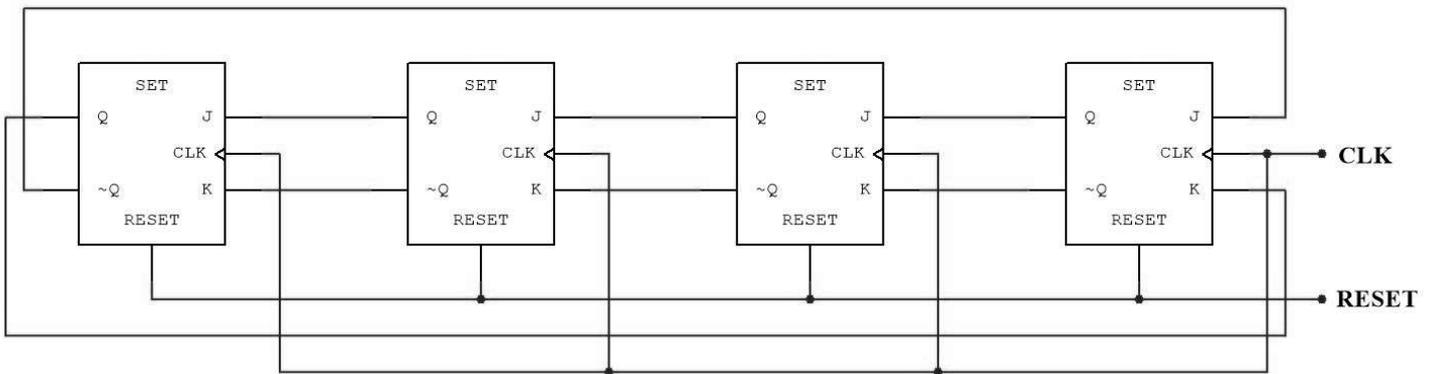
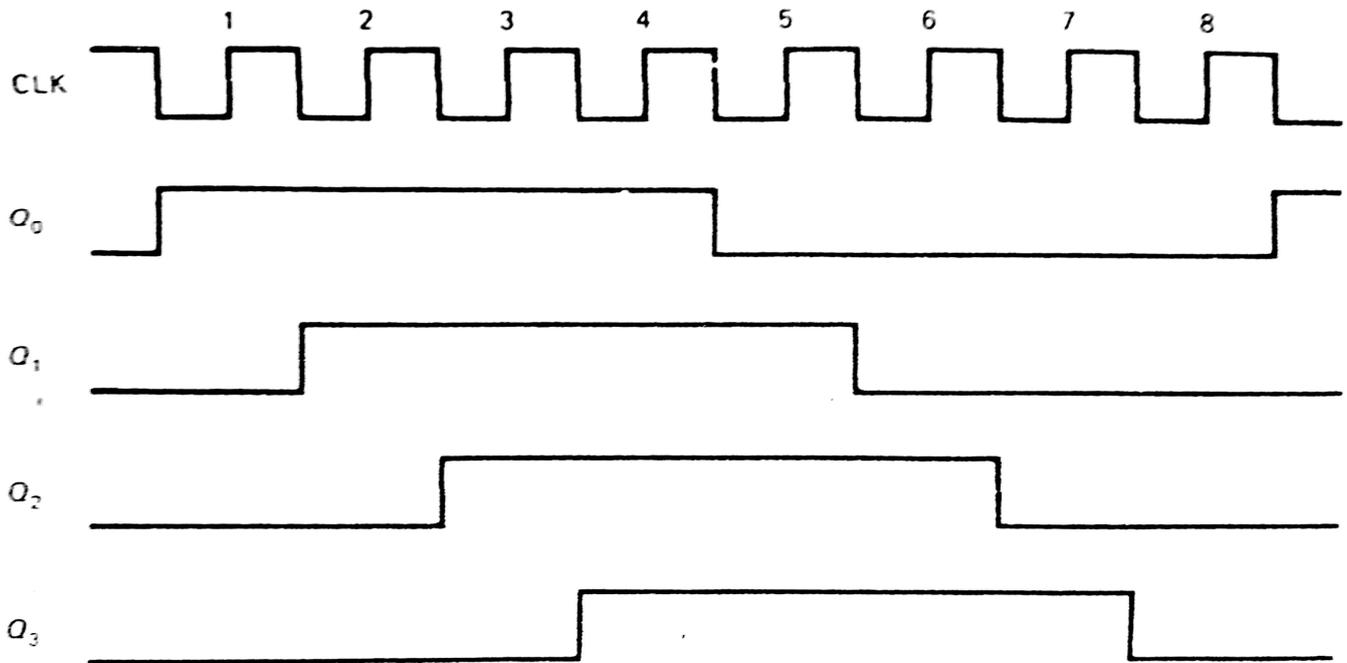

Figure 4.6. Johnson Counter
Figure 4.7. Johnson Counter Timing Diagram
The modulo number of a ring counter can be doubled by switching the Q and \bar{Q} outputs of the last flip-flop so that the \bar{Q} output now feed the FF_0 J input and Q the K input. This is the configuration for the Johnson Counter (figure 4.6) which is started at 0000. Note that this condition supplies reset inputs to FF_1 send set input condition to FF_0 . On the first clock input, FF_0 sets while the rest remain reset. Now set inputs are applied to FF_0 and FF_1 . The next clock input sets FF_0 and FF_1 while resetting FF_2 and FF_3 . The process continues until all four flip-flops are set as illustrated in figure 4.7. Once all four are set, the outputs of FF_3 then send reset inputs to FF_0 . On the succeeding clocks, the process is reversed until the counter once again has all reset outputs. Note from the timing diagram that there are now eight different output conditions causing this to be a mod 8 Johnson Counter.
4. What is the state of the Johnson Counter outputs in figure 4.6 following nineteen clock cycles after the release of the reset signal?